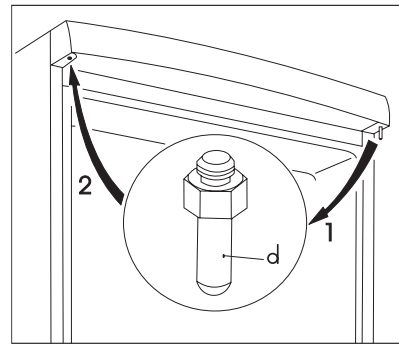

fig. 1.
7. Unscrew the top door hinge pin (d) of the refrigerator then screw it back on the other side. (fig. 1)